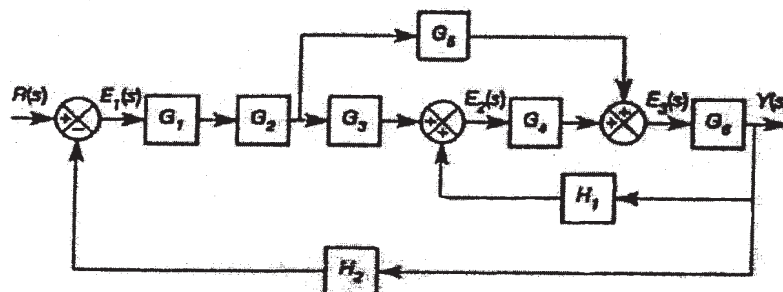

Figure Q7 (b)
- b) Figure Q7(b) shows a block diagram. Simplify and find the transfer function: $Y(s)/R(s)$. [8]